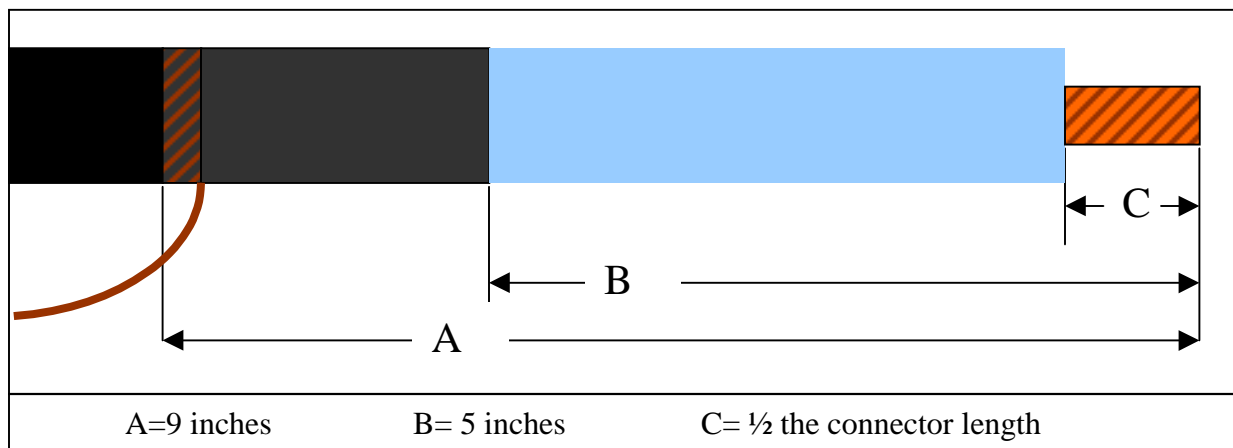

Figure 6, Prepared Cable
- Remove the semi-conductive material from the conductor (Figure 6).